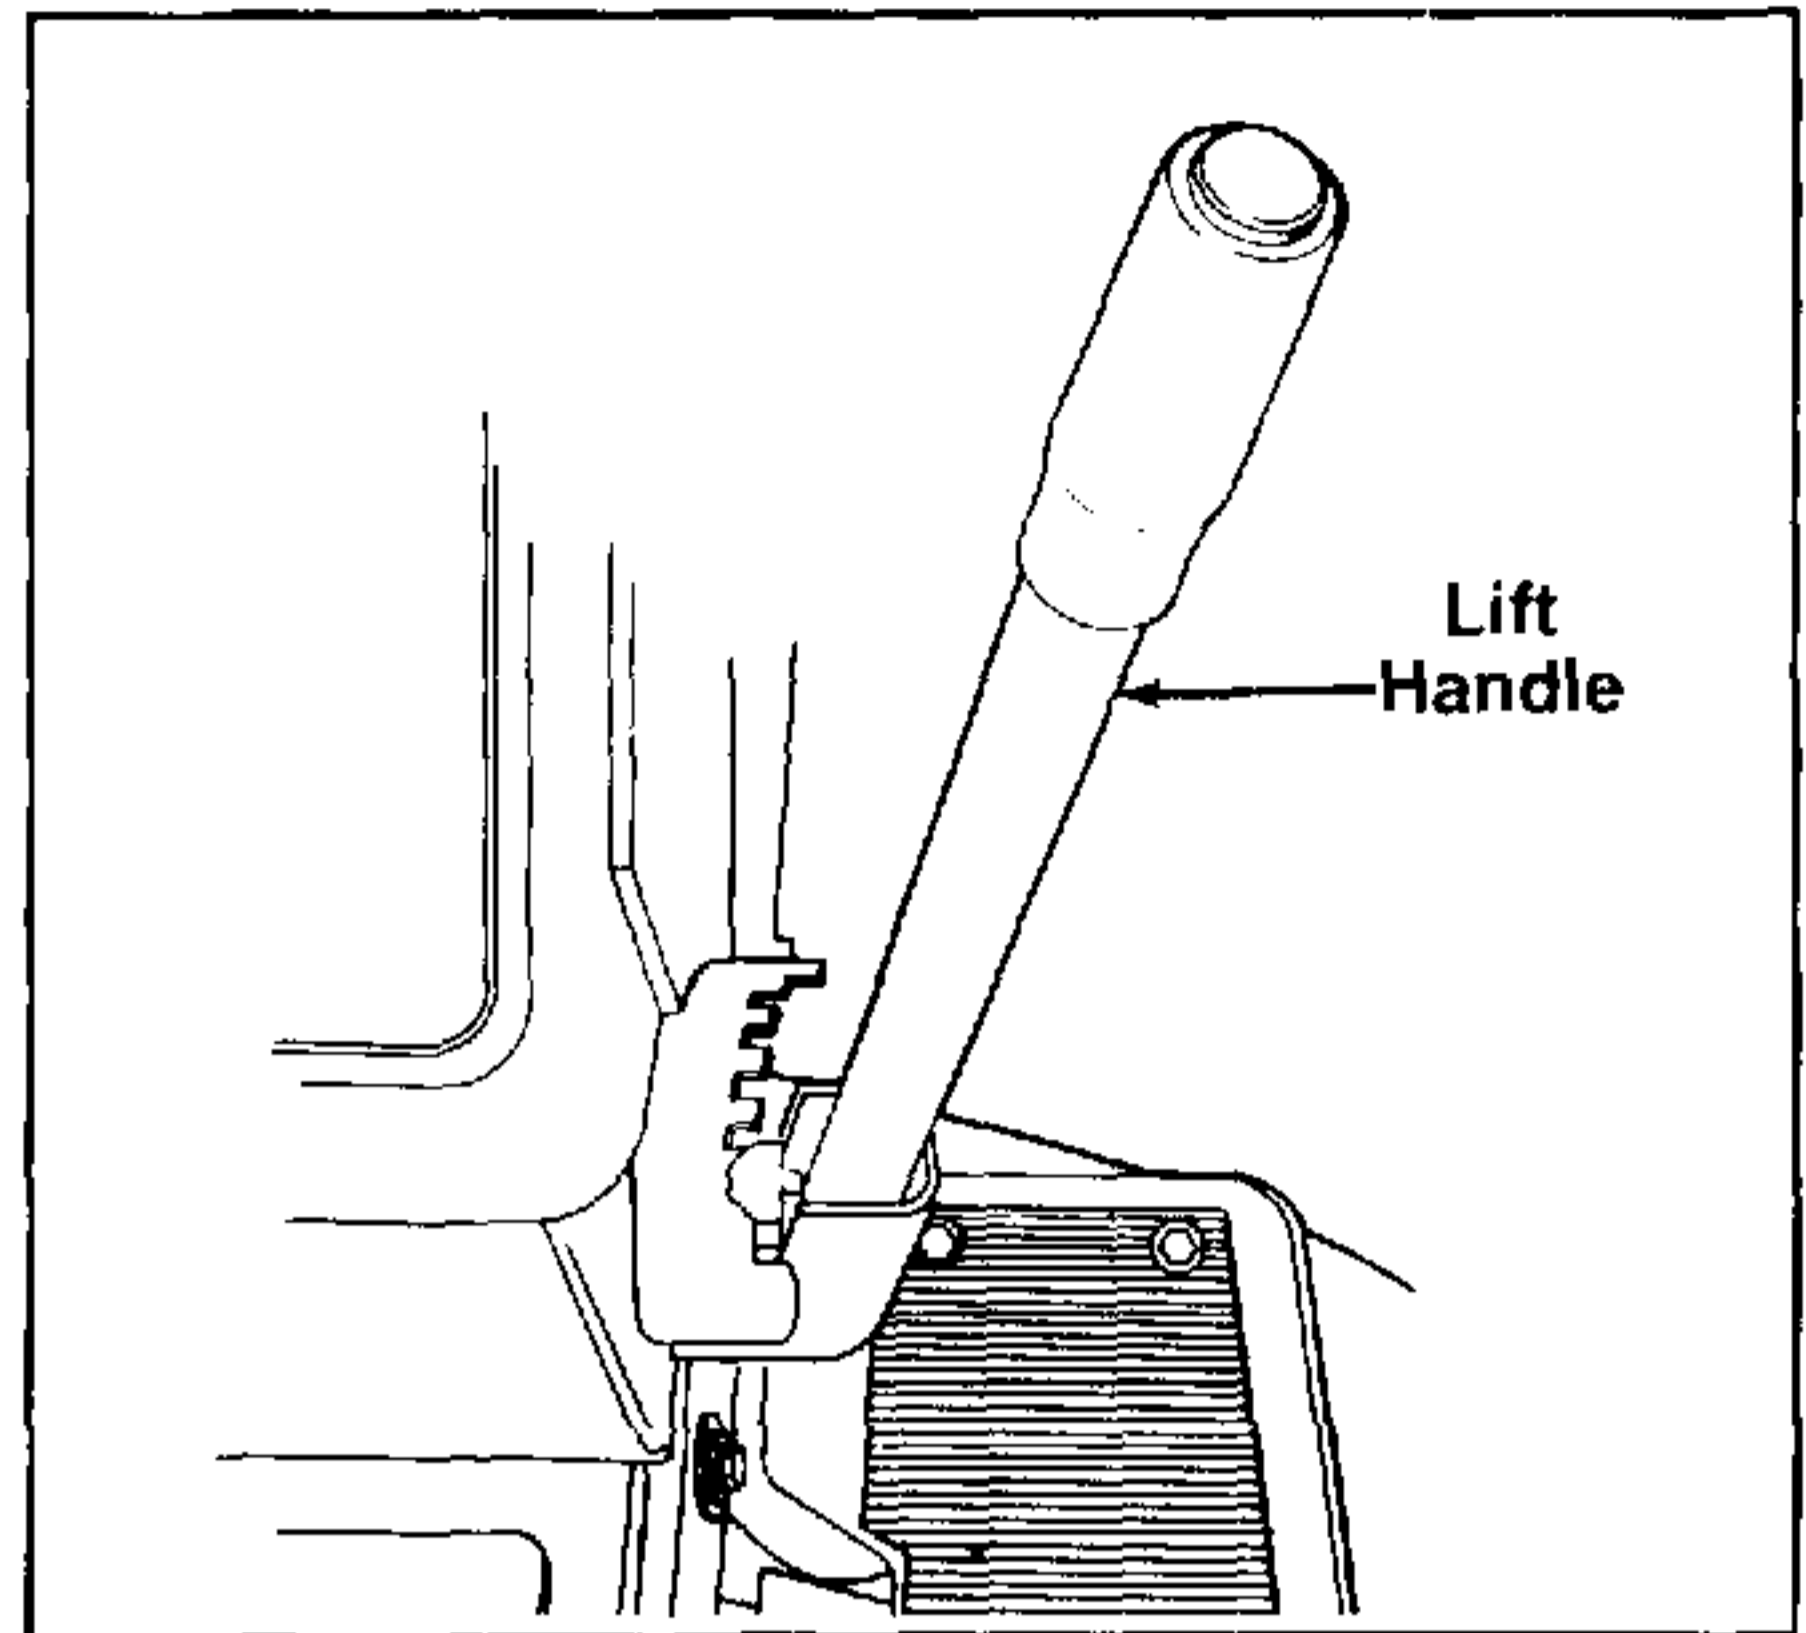

FIGURE 13.
2. Place the lift handle (figure 13) in position number 6.